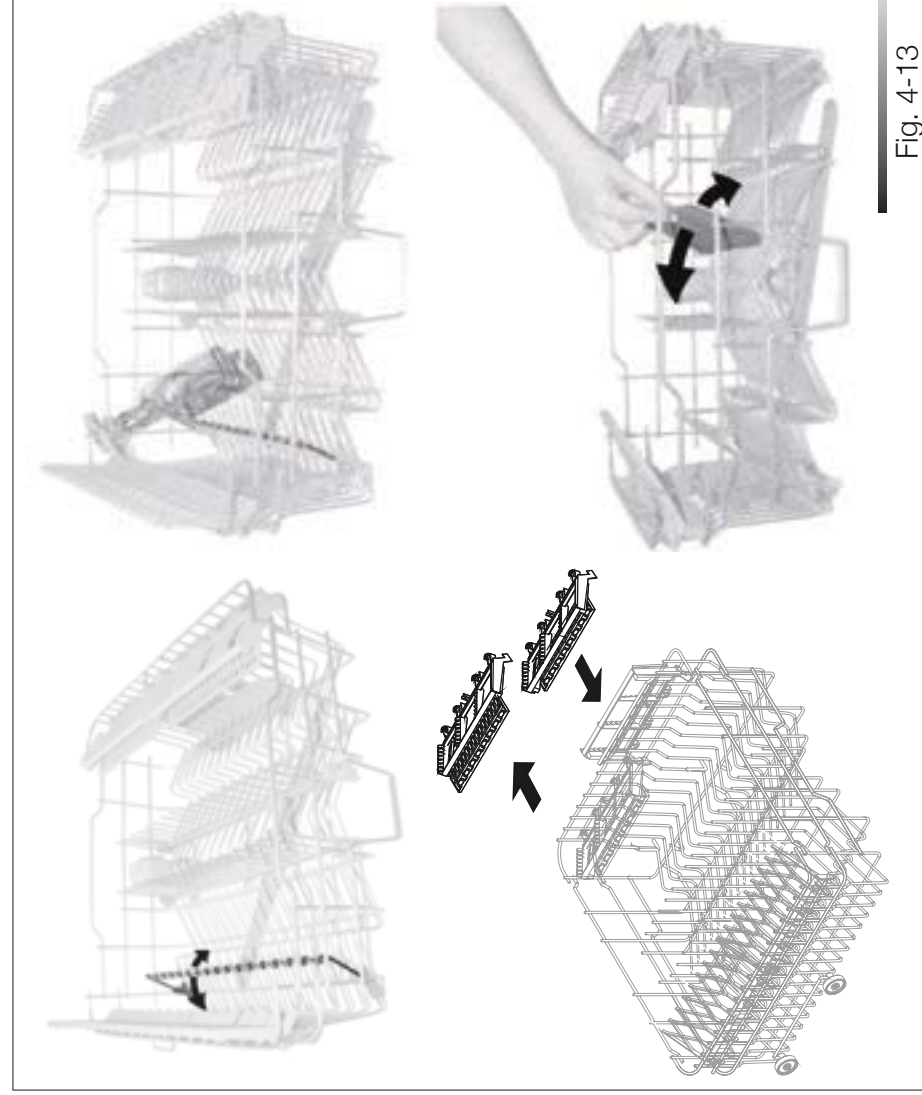

Fig. 4-13
4.3.3 Upper rack (see fig. 4-13)